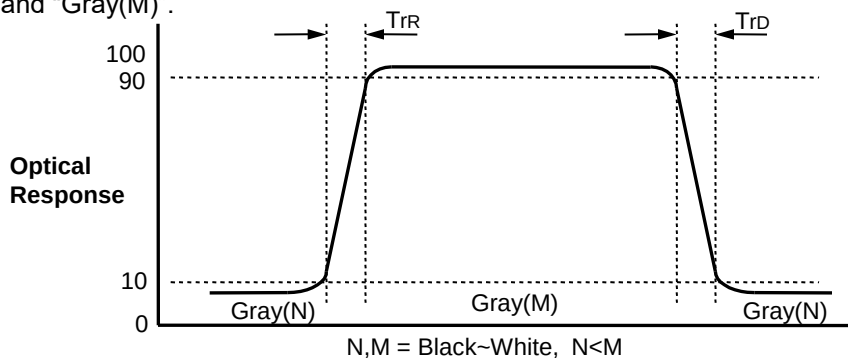

FIG. 3 Response Time
4. Response time is the time required for the display to transit from G(N) to G(M) (Rise Time, Tr_R) and from G(M) to G(N) (Decay Time, Tr_D). For additional information, see the FIG. 3. (N<M)